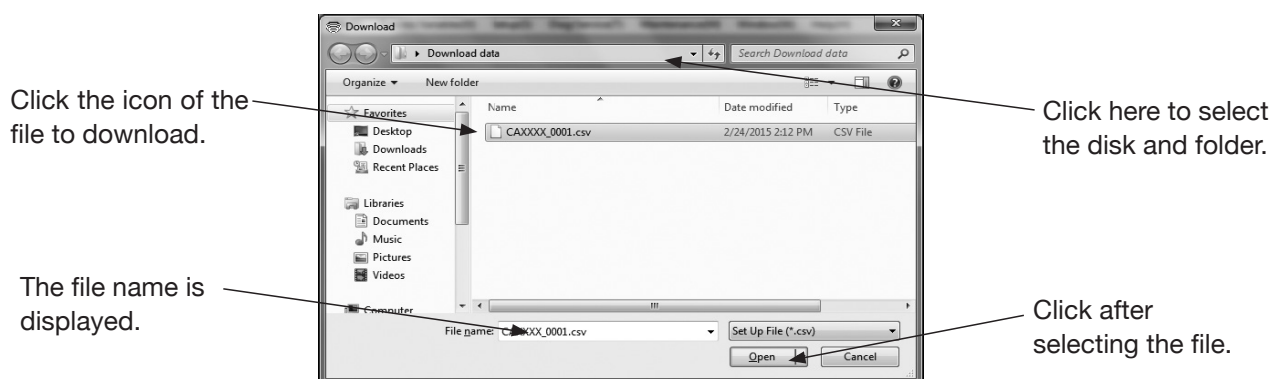

Fig.174
- ① To download, verify the parameters in the current flowmeter to ensure that it is the right flowmeter. To save parameters, follow the instructions in section 3.10.2 "Print and save file".
- ② After verifying the flowmeter, load the data to be downloaded.
- ③ Click "File (F)" > "Database (F)" > "Download (D)" in the menu.
- ④ The standard dialog will be displayed (Fig. 174). Select the disk and folder where the file to be downloaded is stored from the drop-down list.
- ⑤ Select the file to download by clicking it. Verify the "File Name (N)" and click the "Open (O)" button. To exit without downloading the file, click the "Cancel" button.